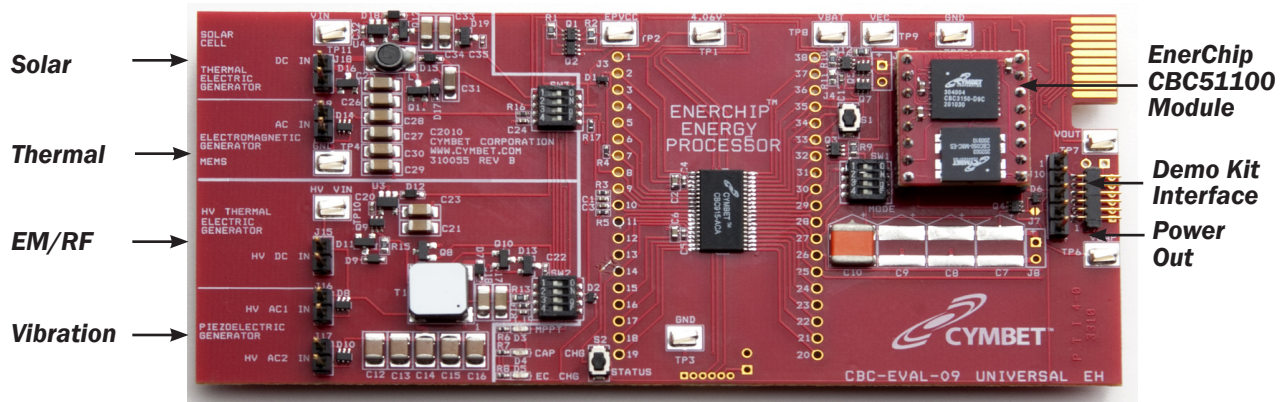

Figure 1: CBC-EVAL-09 Demo Kit - 5 x 2 inches
CBC-EVAL-09 is a universal energy harvesting (EH) evaluation kit that combines any one of multiple EH transducers with the EnerChip™ EP CBC915-ACA Energy Processor and the EnerChip CBC51100 100uAh solid state battery module that has two 50uAh EnerChip solid state batteries connected in parallel. The purpose of this evaluation platform is to enable designers to quickly develop Energy Harvesting applications. The EVAL-09 ships with a solar cell for initial evaluation kit testing. A photo of CBC-EVAL-09 board is shown in Figure 1.